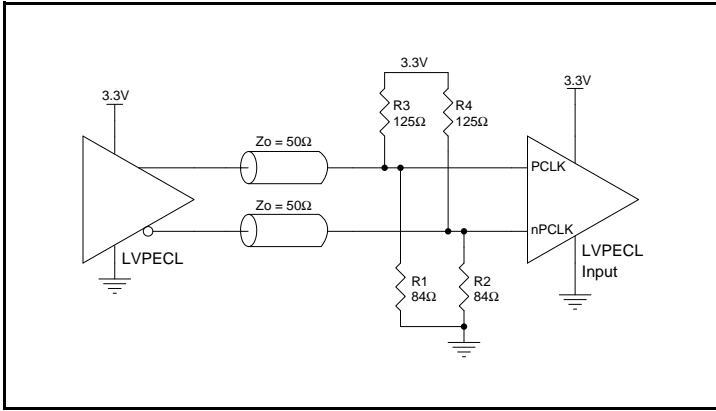

**Figure 1B. Alternative DC Coupling a Single LVCMOS Input to the 8SLVP2108**
A practical method to implement  $V_{th}$  is shown in *Figure 1B* below. The reference voltage  $V_{th} = V_1 = V_{CC}/2$ , is generated by the bias resistors  $R_1$  and  $R_2$ . The bypass capacitor ( $C_1$ ) is used to help filter noise on the DC bias. This bias circuit should be located as close to the input pin as possible.
*Figure 1B* shows a way to attenuate the PCLK input level by a factor of two as well as matching the transmission line between the LVCMOS driver and the 8SLVP2108 at both the source and the load.
Though some of the recommended components of *Figure 1B* might not be used, the pads should be placed in the layout so that they can be utilized for debugging purposes. The datasheet specifications are characterized and guaranteed by using a differential signal.